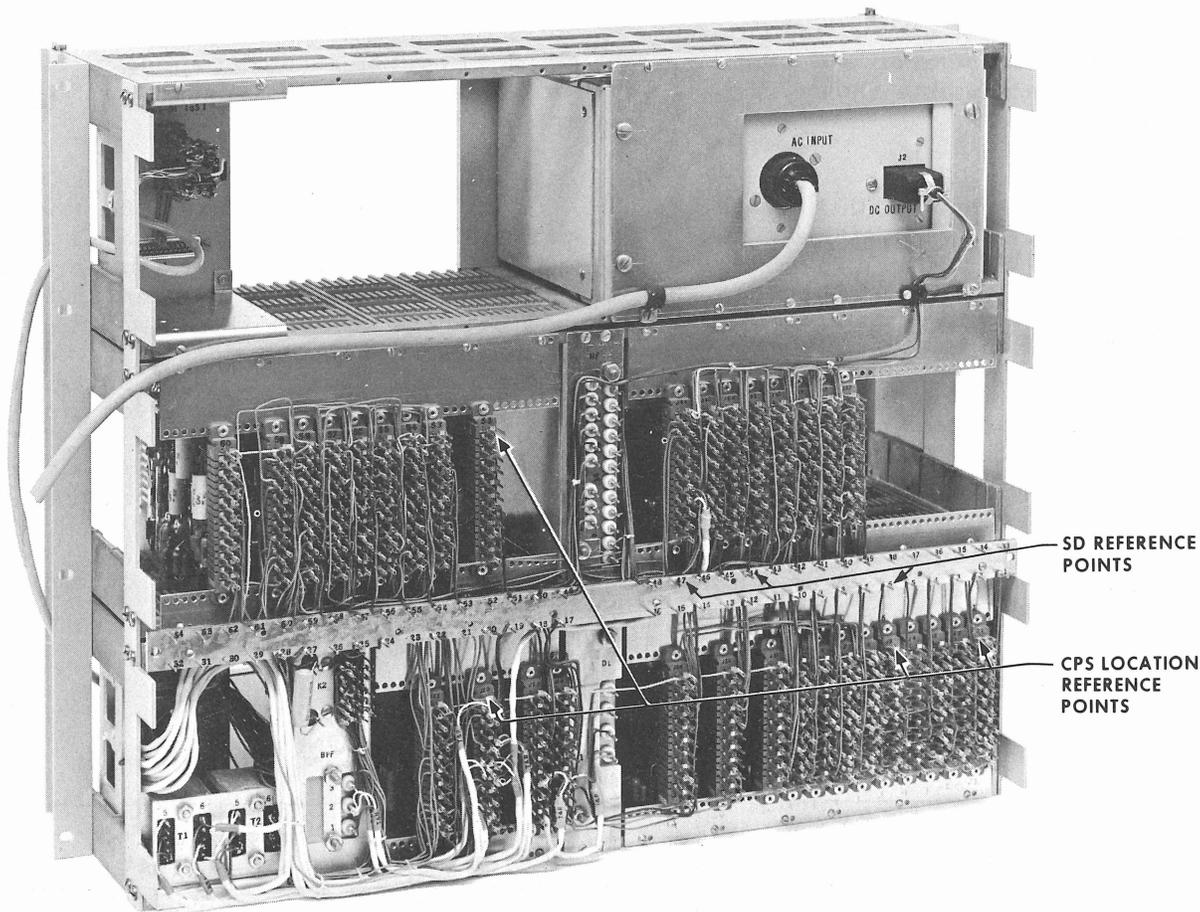

Fig. 2 - Data Set 205A, Rear View
2.17 Fig. 2 is a rear view of the data set showing card reference location numbers and reference points shown on the schematic drawings.